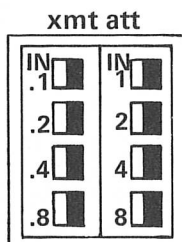

figure 3. 4Wire transmit attenuator switches
3.06 The 4wire transmit channel's impedance, gain, and attenuation are selected by means of DIP switch *S1* on the module's main board and the *xmt att* (transmit attenuation) DIP switches on the module's front panel. Switch *S1* is a three-position switch that controls the output impedance and gain of the transmit channel. The various settings of *S1* are summarized in table 2. The *xmt att* front-panel switches provide from 0 to 16.5dB of attenuation in 0.1dB increments. The amount of attenuation provided by each switch position appears on the front panel of the module adjacent to each switch position (see figure 3). These values are additive; thus, the amount of attenuation introduced is the sum of those switch positions set to *in*.